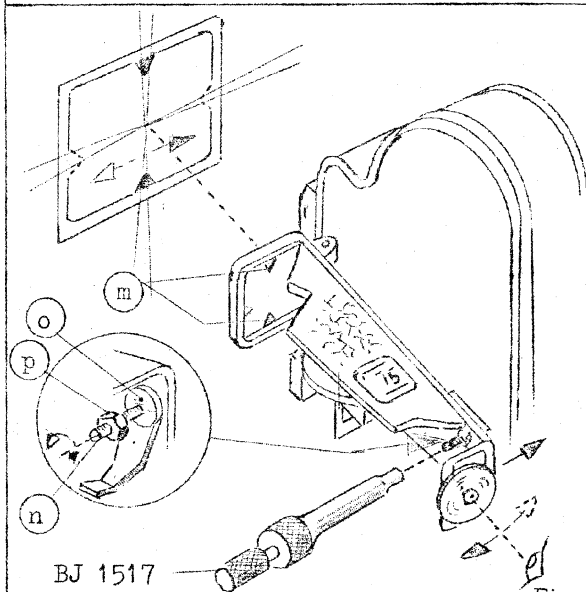

Fig. 6
2.2 Horizontal adjustment (fig. 6)